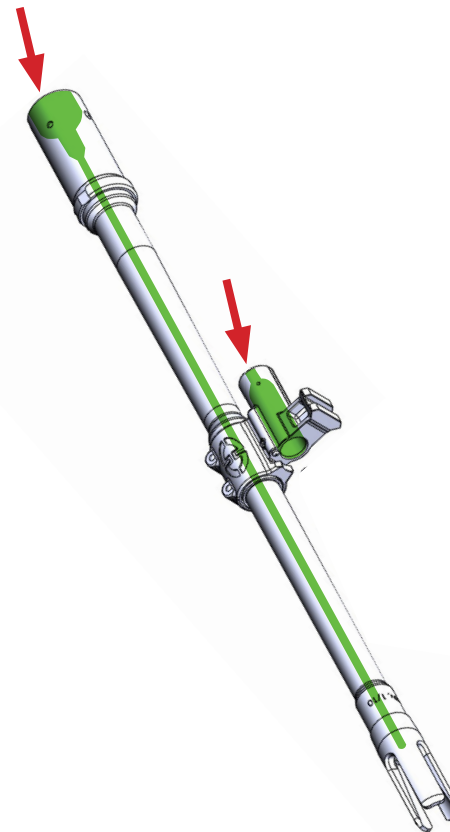

Fig. d-1
2. Run cleaning patches with CLP applied through the rifle barrel until the patches come through clean. (Fig. d-1)
5. Clean out the gas block with a wire brush, wipe clean with a rag, apply light CLP. (Fig. d-1)